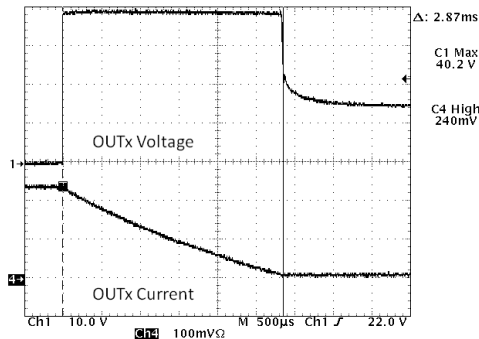

Figure 4. Repetitive Clamping Energy Test
3. Testing particulars, 2M pulses, $V_{bat} = 15$ V, 63 Ω , 390 mH, $T_A = 25$ °C. (See Figure 4)